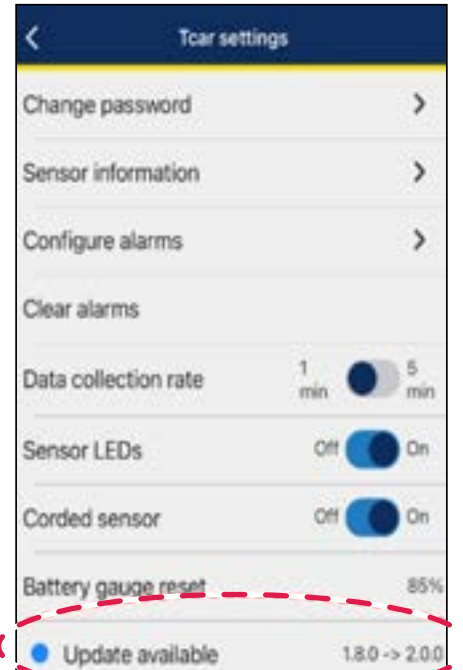

Figure 57
2. Select **Update Available** (figure 57).